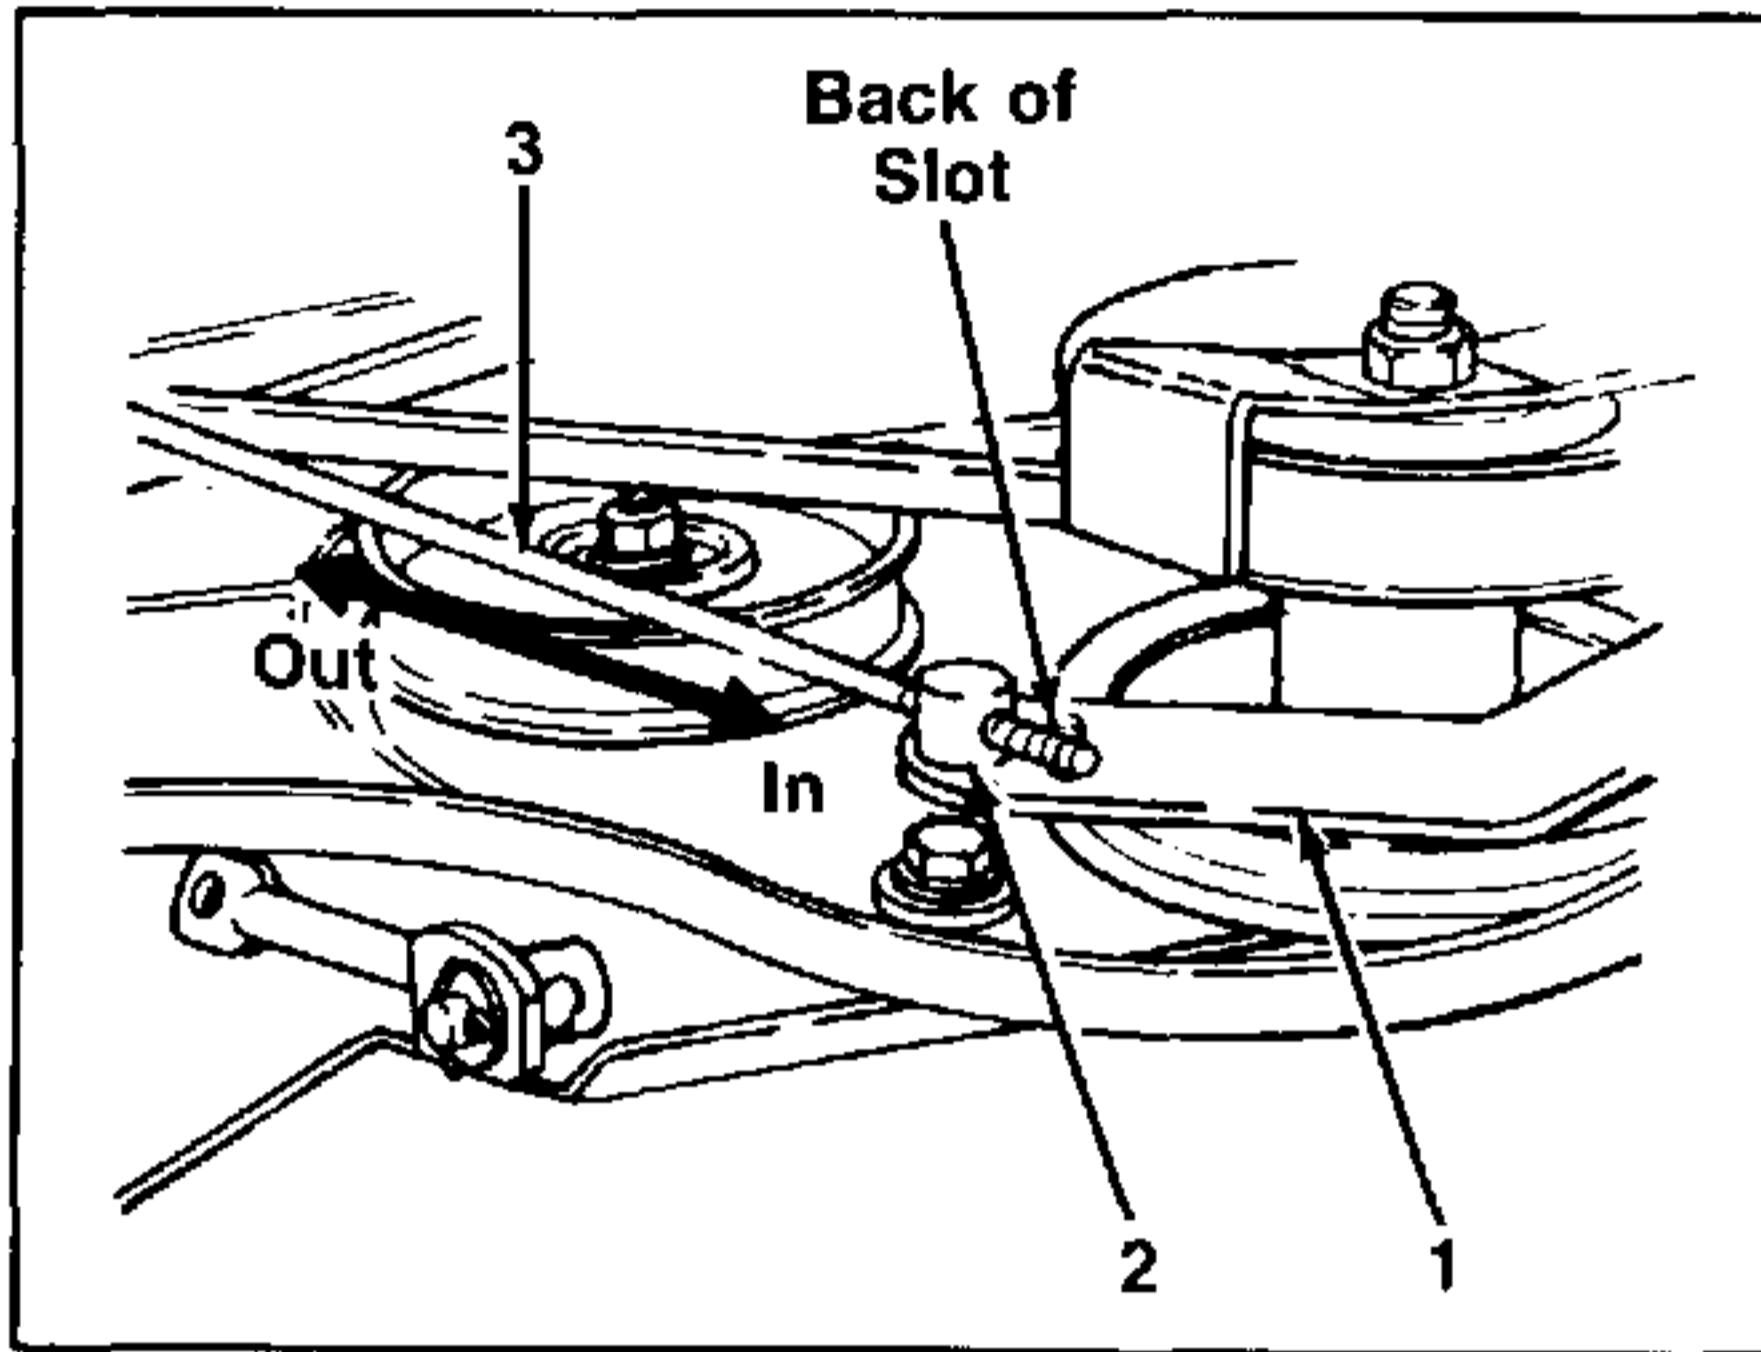

FIGURE 19.
- To attach the brake rod to the clutch rod, turn the brake rod in (shorten) or out (lengthen) of the ferule mounted to the brake bracket assembly. Refer to figure 19.